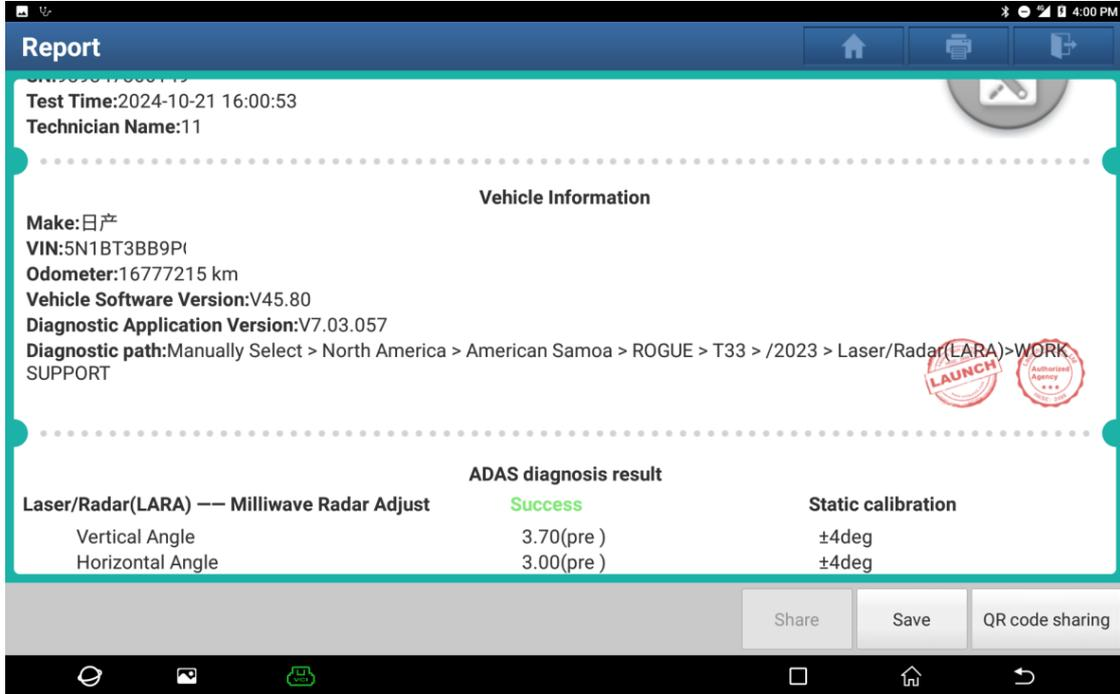

Figure 20
18. Save the ADAS diagnostic report (as shown in Figure 20).